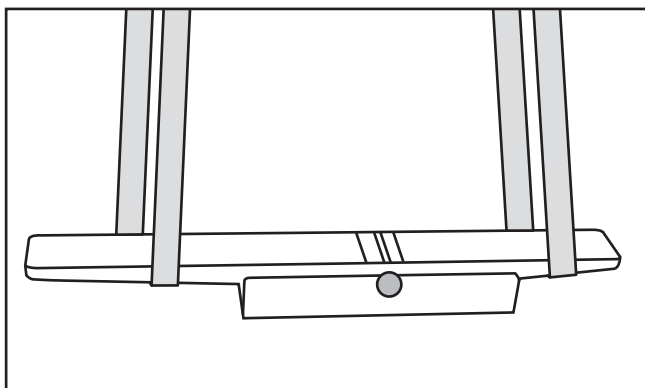

Figure 12. Using lifting straps to lift jointer assembly.
14. Remove the (2) hex nuts and flat washers from underneath shipping crate that hold the jointer assembly to the crate.
15. Wrap lifting straps around infeed and outfeed table, as illustrated in **Figure 12**, then attach them to forklift forks or hoist.